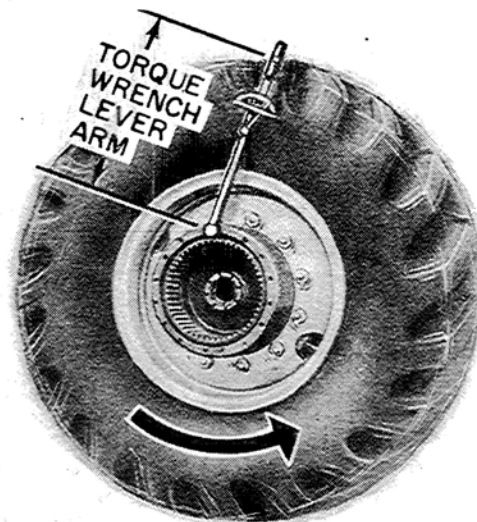

Figure U-58
4. Now check the bearing adjustment by measuring the rolling torque of the wheel - Place a torque wrench on the spider capscrew, Figure U-58, and note the amount of
If the lever arm length, Figure U-58, of the torque wrench is 18 inches - 10 foot pounds will be required to rotate the wheel and tire when the bearing is properly adjusted.